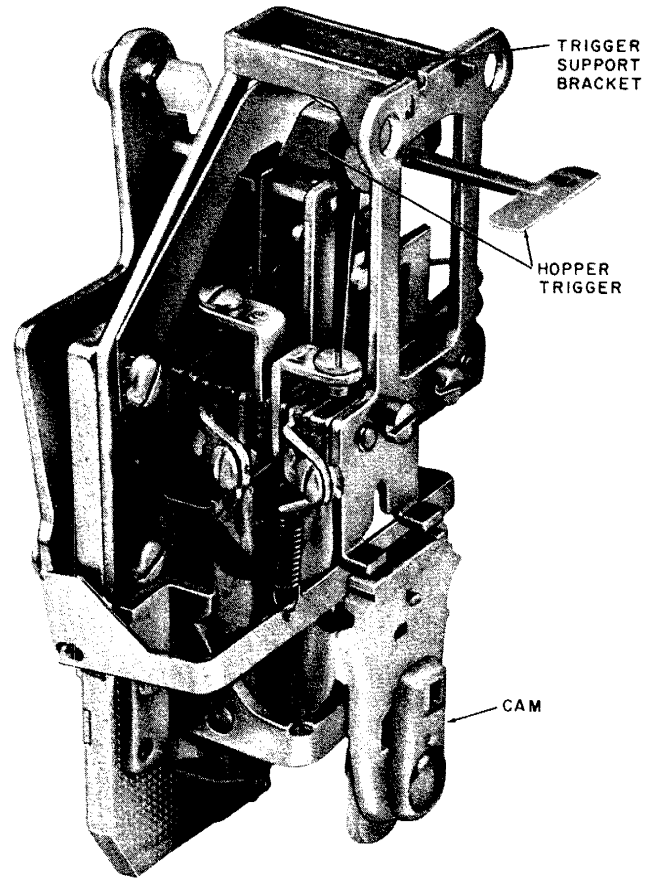
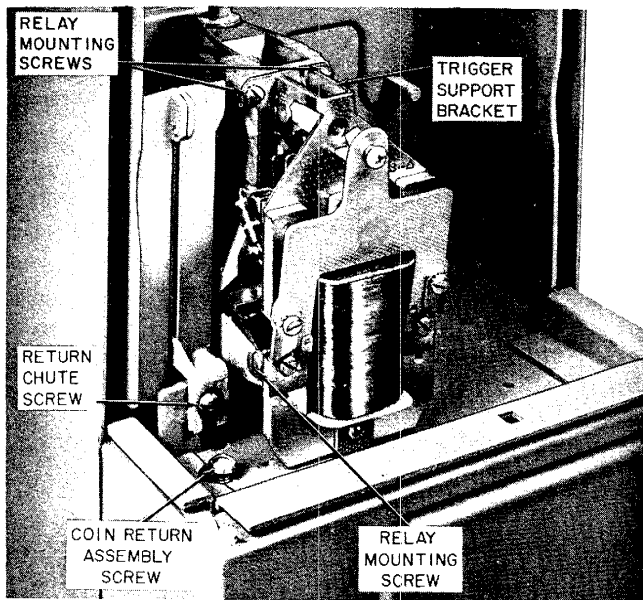

Fig. 18—Coin Relay
Fig. 17—Coin Relay and Return Chute
- (1) Disconnect black and yellow leads.
- (2) Remove two screws on top front of coin relay (Fig. 17).
- (3) Remove two hex head screws on sides of coin relay.
- (4) Check that hopper trigger (Fig. 18) is in horizontal (up) position and pull off coin relay. Take care not to damage hopper trigger.
- (1) Move vane on hopper to left or collect position.
- (2) With hopper trigger in nonoperated position (up), move relay into position until trigger enters T-shaped slot in hopper and trap lever tab just enters opening in selector card.
- (3) Press down slightly on ear on left side of selector card and manually move armature forward to its operated position. Hold armature in this position.
- (4) Move coin relay forward until square stem on vane enters hole in cam and mounting screw holes line up.
**Note:** Do not attempt to install relay if trigger support bracket (Fig. 17) is so distorted that mounting holes do not engage bosses on hopper.
- (5) Place and tighten evenly two mounting screws in top of coin relay and two hex head mounting screws in each side of relay.
- (6) Make sure that trigger, armature, trap, and vane operate without binding.
- (7) Reconnect yellow lead to terminal G and black lead to terminal 3.
- (1) Remove coin chute-totalizer assembly (4.03).
- (2) Loosen screw on return chute assembly (Fig. 17).
- (3) Lift assembly up and off.
- (2) Remove return chute assembly (5.05).
- (3) Remove coin return assembly locking screw (Fig. 17).
- (4) Insert finger in coin return and tilt top forward.
- (5) Lift coin return. Pull coin return assembly out and up.